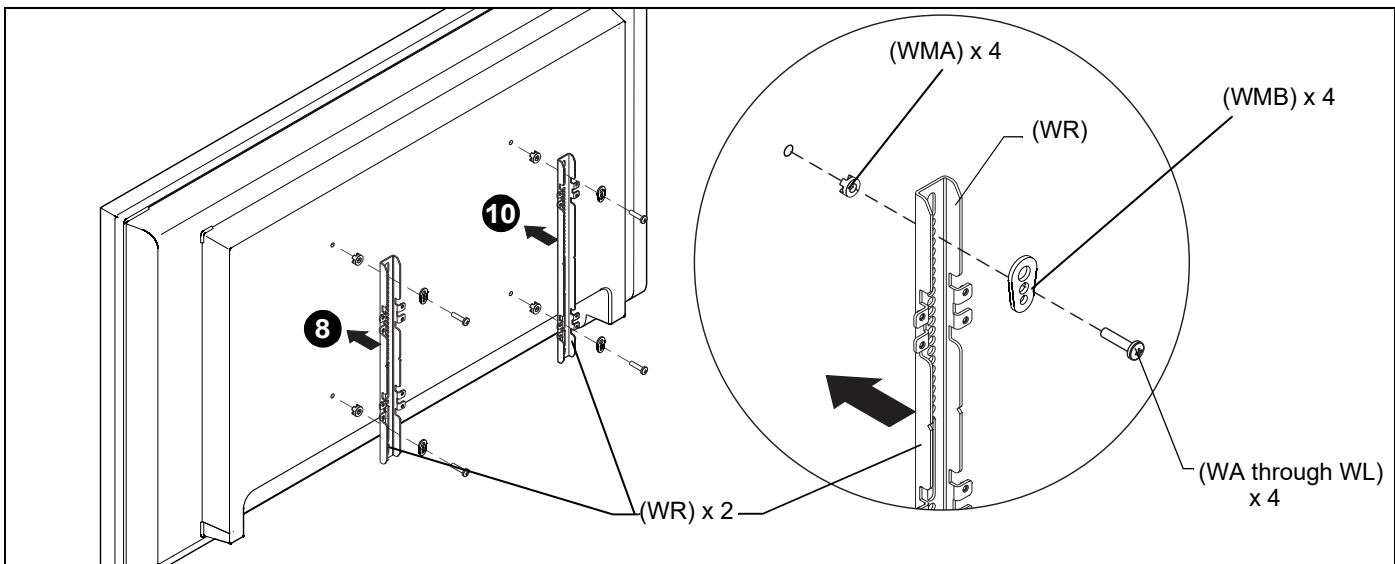

Figure 17
6. Align mounting holes in vertical mounting bracket (WR) with upper and lower mounting holes in display.
7. Adjust vertical mounting bracket (WR) position until mark made in Step 1 aligns with center mark in vertical mounting bracket (WR).
8. Select correct screws, nesting spacers (if necessary) and universal washers (if required) from the hardware bag (WA-WM) and attach brackets to back of screen. (See Figure 17)
9. If the display has a recessed mounting surface, protrusions or a power box, a spacer and longer mounting hardware must be placed between the display and vertical mounting bracket (WR). (See Figure 17)